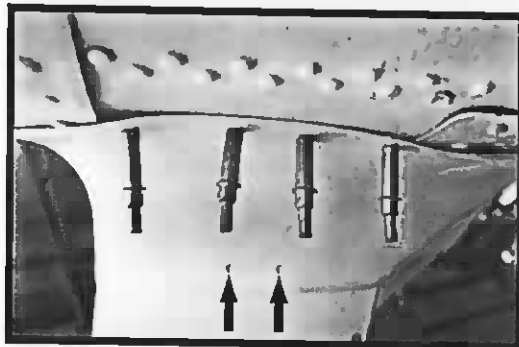

Figure 1-12
21. Use a #12 or 3/16" drill bit to drill holes through the cuff and strut fairing at the two locations marked by dimples in the cuff. These dimples do not show up very well in a photograph; therefore, Figure 1-12 shows these holes already drilled.